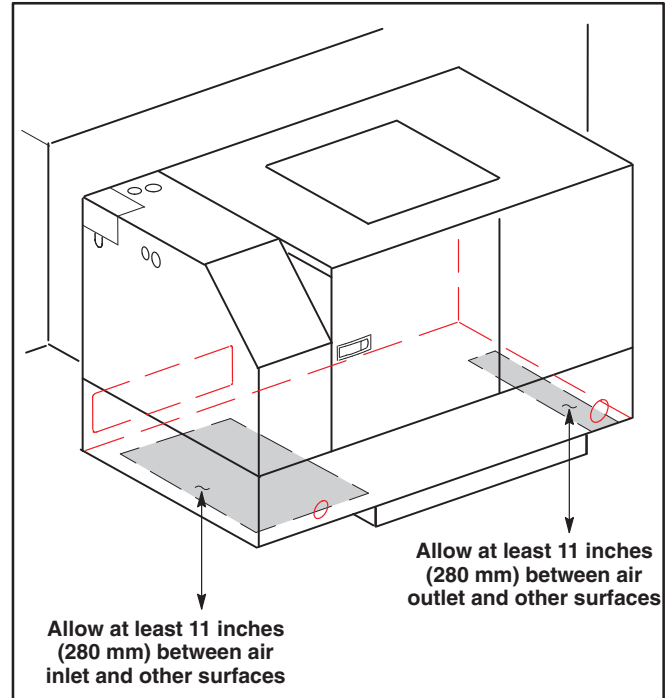

FIGURE 2. MOUNTING EXAMPLE
1. If the back of the genset is mounted against a wall, and the other three sides are not restricted, a minimum of 11 inches (28cm) bottom clearance is required from air inlet and air outlet openings. (Figure 2)
3. The maximum allowable inlet air duct restriction is 0.8 inch water column (WC) when there is no restriction to outlet air.
4. The maximum allowable outlet air duct restriction is 0.7 inch water column (WC) when there is no restriction to inlet air.
genset outline drawings (Figures 2 through 5) show the dimensions of the exhaust flange and the locations of the tailpipe clearance holes.